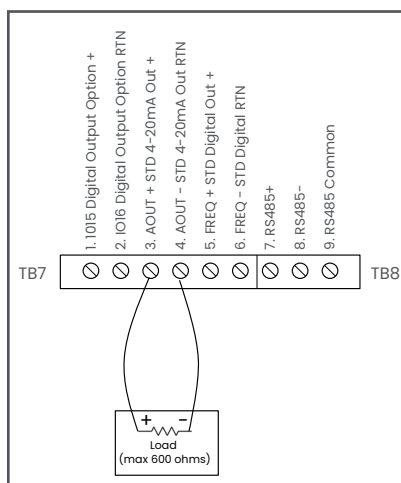
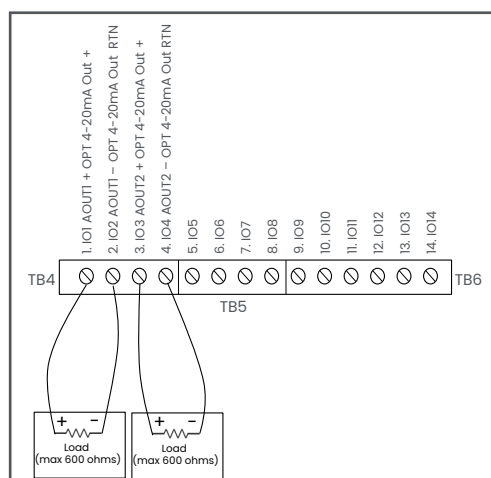

Figure 23: Wiring Standard 4-20mA Output
Figure 24: Wiring Optional 4-20mA Outputs
4. Feed one end of the cable through the conduit hole and wire it to the terminal block as shown in *Figure 23* and *Figure 24*. Secure the cable gland.